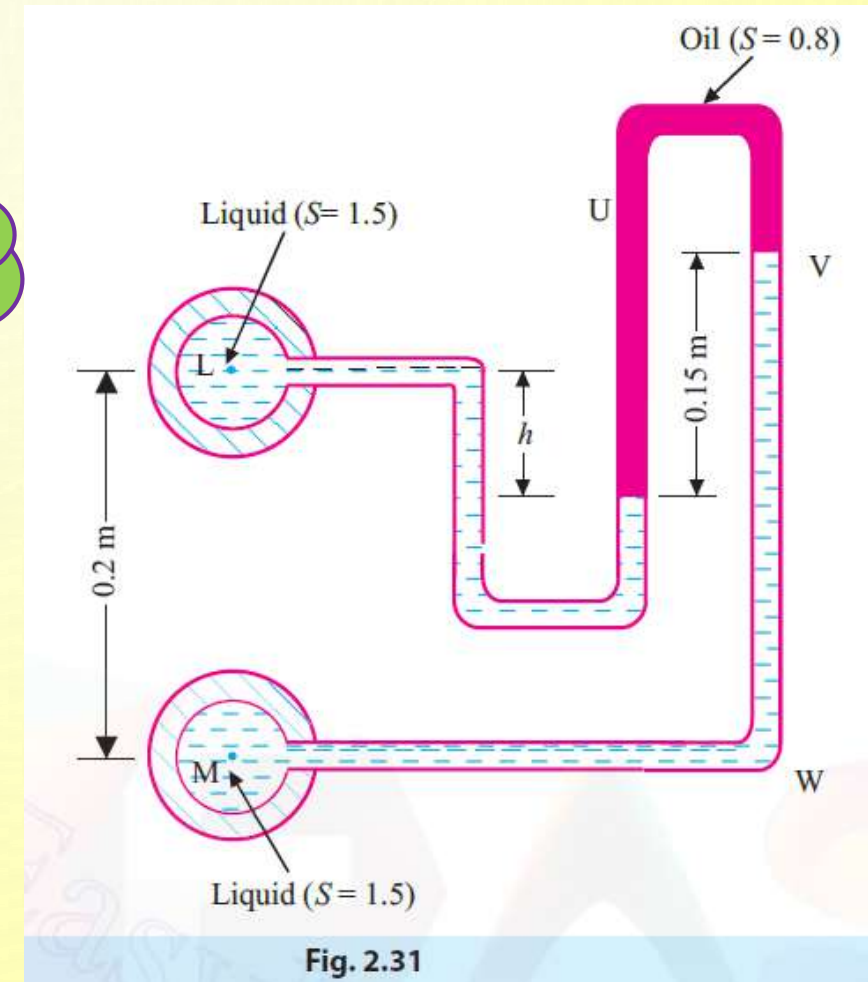

Fig. 2.31
**Example 2.28.** Find the pressure difference between L and M in Fig. 2.31.